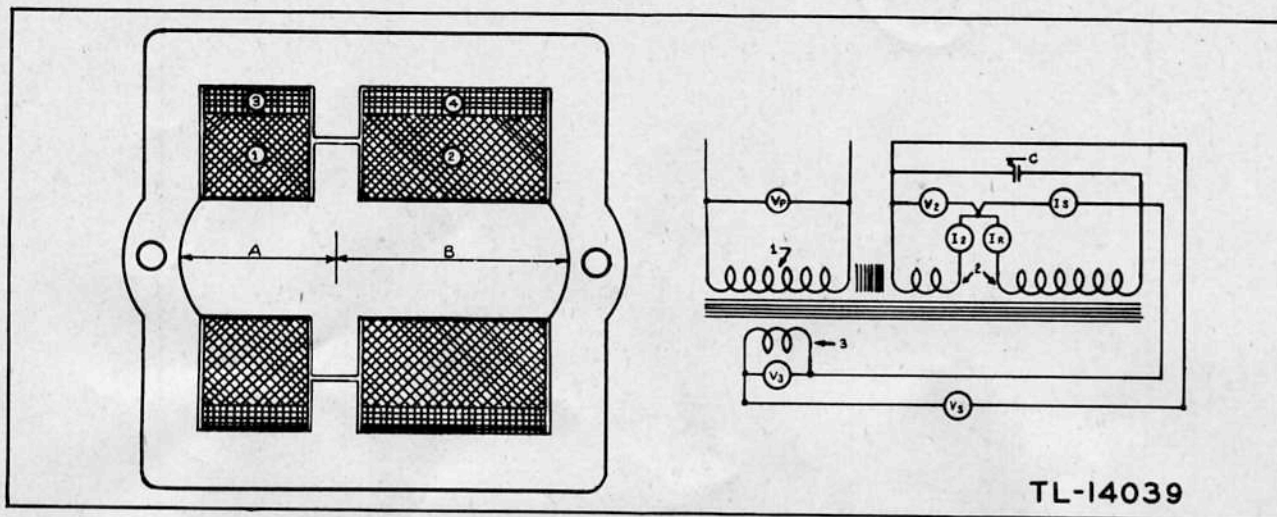

Figure 30. Constant voltage transformer, cross section of transformer and schematic diagram.
**c. Constant Voltage Transformer Circuit.** The constant voltage transformer employs a combination of resonant circuit action with that of a transformer having high leakage reactance. A specially shaped lamination, shown in figure 30, is employed. The side bars on the core form a magnetic shunt contributing to the regulatory action of the transformer.
(1) The windings are as follows:
(2) The output energy is largely drawn from the resonant circuit. The voltage in the tank circuit is stabilized by the action of the magnetic shunt interposed between the primary and the tank circuit.
(3) The voltage appearing across the tank circuit varies slightly with changes in primary voltage. These small variations are to a large extent compensated for by opposing the output voltage with a small voltage developed across the compensating winding.